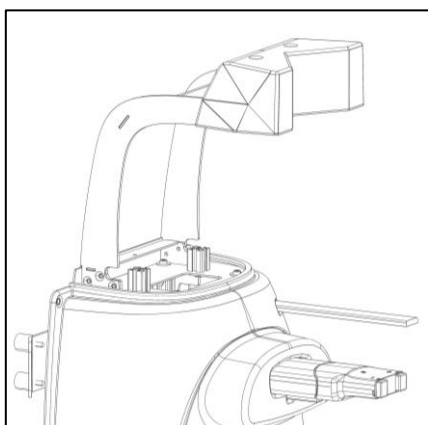

Fig. 6
4. Align the reflector to the chassis (Fig. 6).